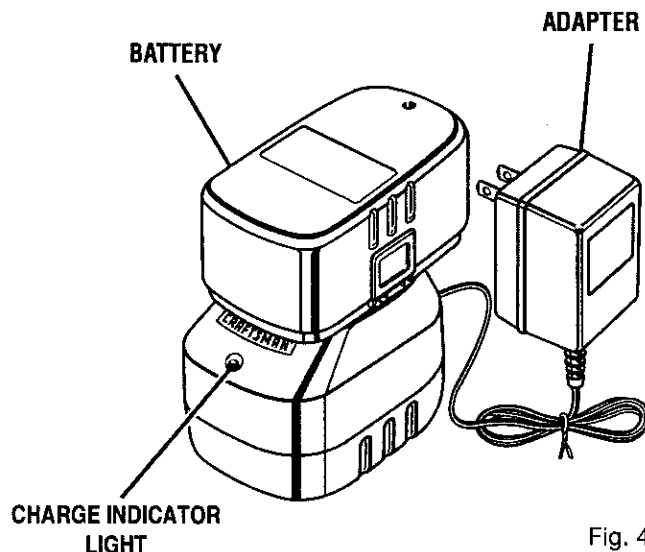

Fig. 4
See Figure 4.
- Place battery pack in the saw. Align raised rib on battery pack with groove inside saw, then slide battery pack in saw as shown in figure 4.